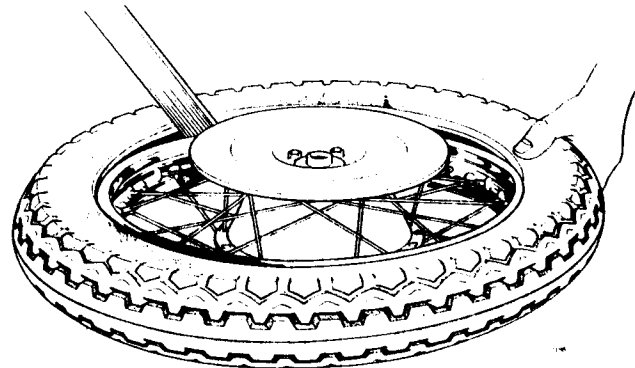

Fig. H15 Careful levering of second bead over wheel rim
- 8 As shown in Fig. H15, taking care to avoid "nipping", lever the last portion of the beading over the rim, finishing at the valve.